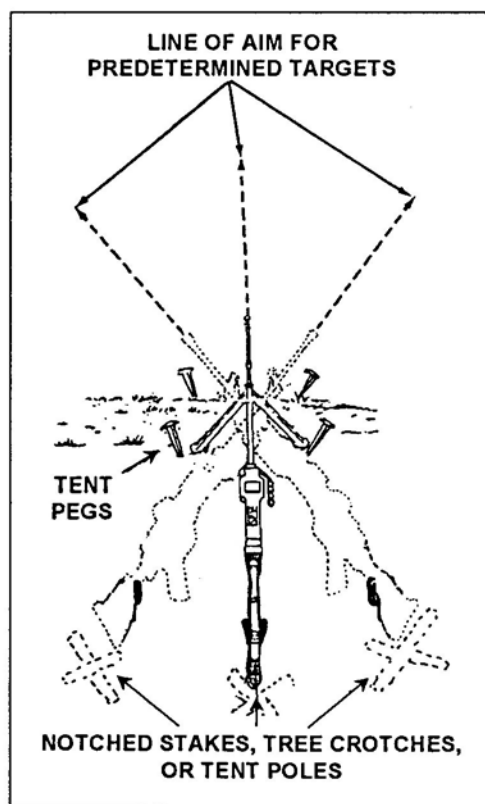

Figure 1. Expedient Sector of Fire Markers
1. Fabricate notched stakes or tree crotches if needed (Figure 1).